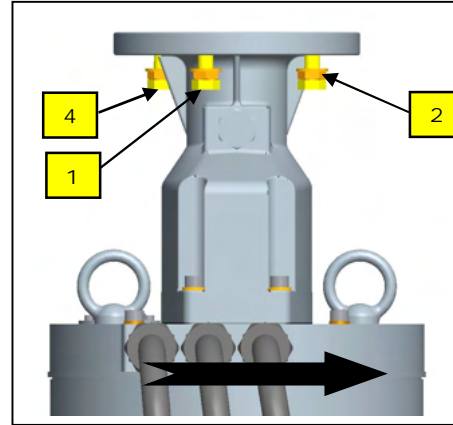

Fig. 17
- Move the vertical axis to the right (black arrow – Fig.17) and unscrew the screws 1-2-3 and fix the M12 screw until the end of the working range (Fig.17).